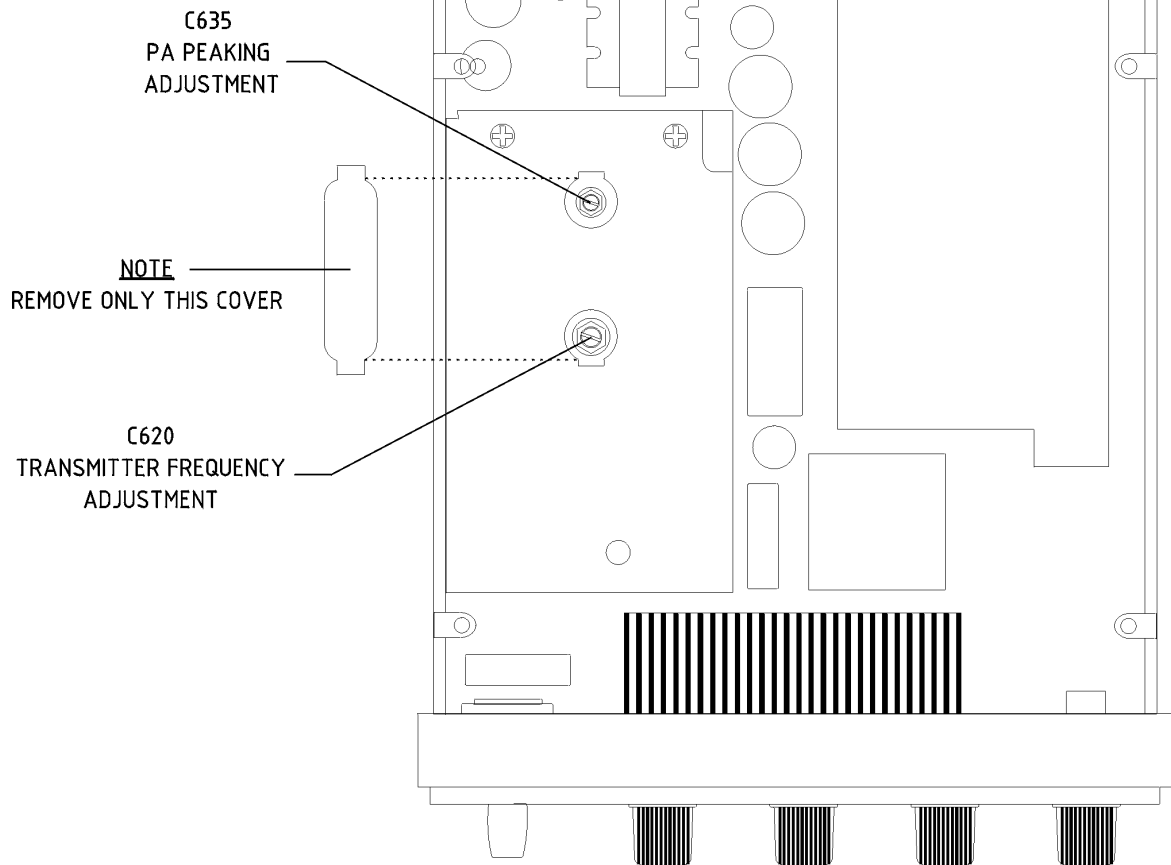

Figure 3-1. C620 and C635 Location
- Carefully dislodge the thin metal piece that covers the access holes to the transmitter section (figure 3-1) by prying one end with a small, thin screwdriver.
- Rotate the frequency-adjust slug C620 (figure 3-1) with the screw driver portion of the transmit adjustment tool to a frequency of 1089.5 ± 0.5 MHz. Observe the frequency display on the test set. Tighten the lock nut when finished.